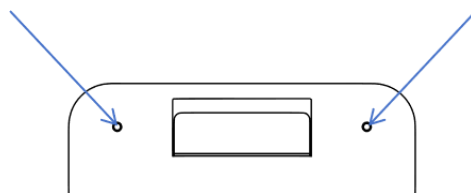

Figure 4.1
(1) Measure with tape measure and mark with marker pen at the height of 0.8 ~ 1.2 m above the ground (if the terrain is low, the height can be increased appropriately). Put the drilling cardboard horizontally above the mark.
(2) Mark the 4 fixing holes of drilling cardboard on the wall with a marker pen, and drill 35 mm deep with an electric drill.
(3) Insert 4 expansion tubes into the drilled holes, and fix the metal backplate with 2 expansion screws, as shown in **Figure 4.1**.